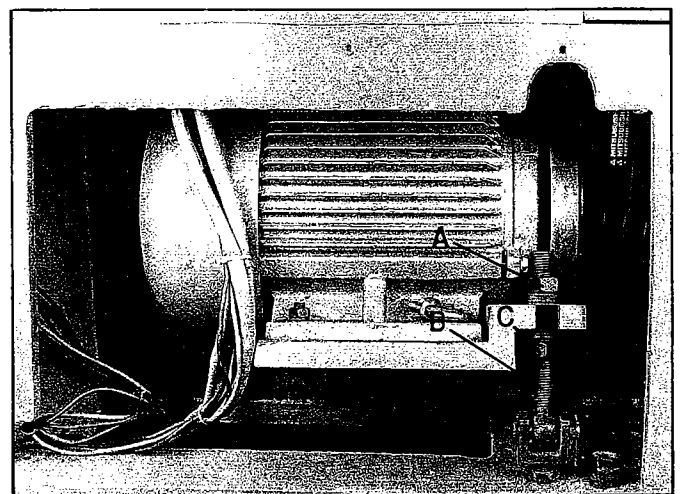

Fig. 31
- Loosen hex nut (A, Fig. 31). Place scrap piece of wood under motor to act as a lever. Lift up motor slightly, rotate belt tensioning assembly (B, Fig. 31) out of the way, lift motor up and block temporarily.
- Tension belts by loosening nut (C, Fig. 31) and tightening nut (A, Fig. 31) until light finger